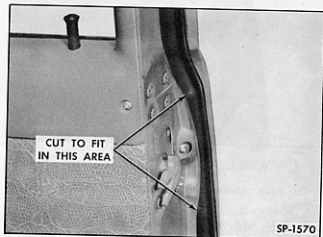

Fig. 37—Weatherseal Installation at Door Lock (2-Door Styles)
5. Before installing the weatherseal down past the door lock, trim a portion off the cementing surface of the seal so it will fit the contour of the door (see Fig. 37). Apply cement to the weatherseal and press it into position.